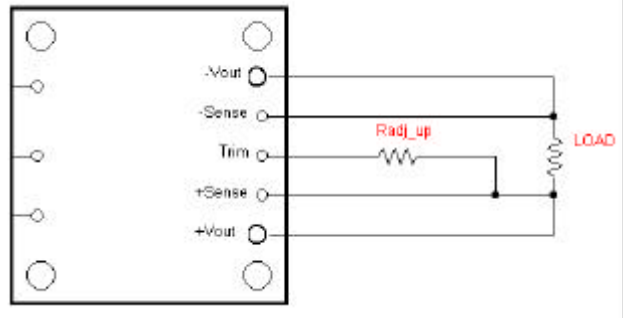

Figure 3. Radj_up Setup to increase Output Voltage
Note: 6. For Output Voltage Adjustment setup, refer to Figures 3 and 4.
To adjust V_o to a higher value, please refer to Figure 3. An external resistor, **Radj_up** should be connected between the Trim Pin and the +Sense Pin. From Equation (1), Radj_up resistor can be determined for the required output voltage increment.